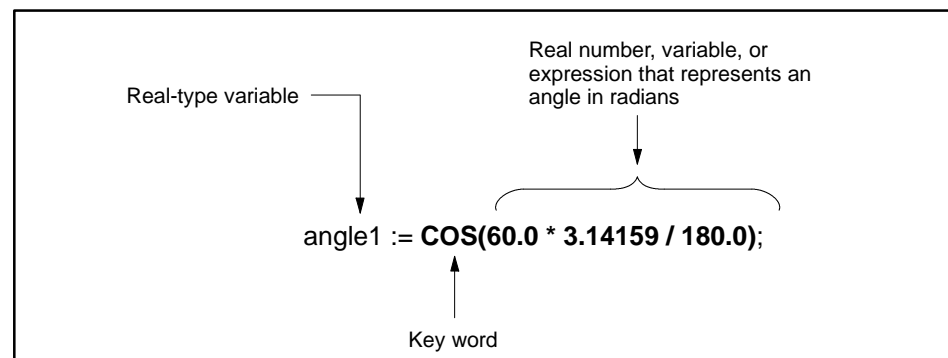

Figure 11-16 COS Function
- The returned value is a real number between -1 and 1. For example, in Figure 11-16, the value of the variable, **angle1**, is 0.50.